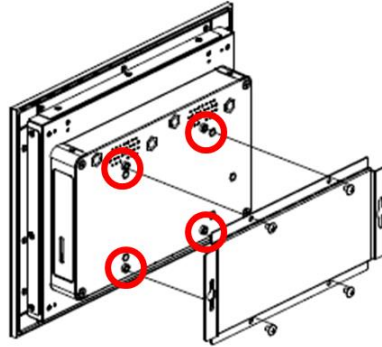

Figure 2-5: Attaching the wall mount bracket
- Step 2** Attach the wall mount bracket to the back of the panel PC by aligning the screwing openings on the top and bottom edges of the bracket with the screwing holes on the back chassis. Then screw the bracket firmly to the back of the panel PC, as illustrated in Figure 2-5.